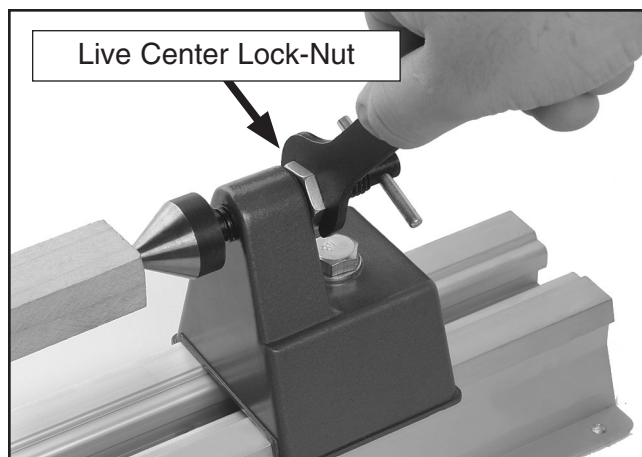

Figure 14. Tightening the live center lock-nut.
11. Use the open end wrench to tighten the live center lock-nut as shown in **Figure 14**.